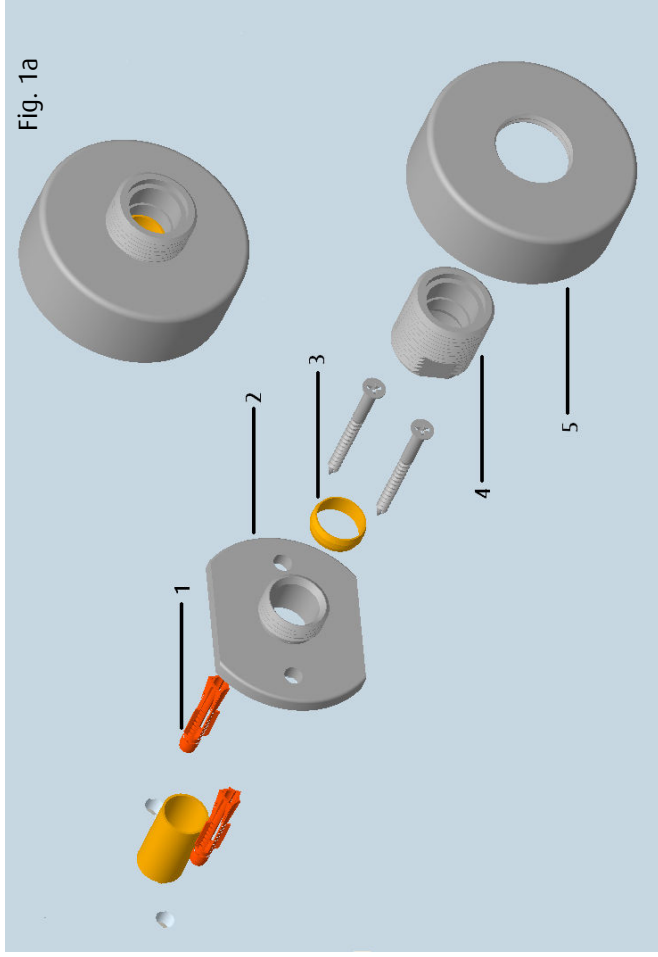

Fig. 1a
### 4.1 Pre-Installation (See Fig. 1a & 1b)
### 4.2.1 Fast Fit Fixing Kit (See Fig.1a)
To fit mixer body to the wall. Place the filter washers (6) into the connecting nuts (7) and tighten to the fixing bridge (4 on page 3. Fig. 1a) using the connecting nuts (7) which are secured to the mixer body.